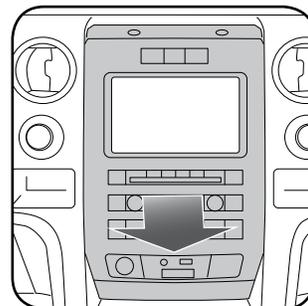

Fig. 1.7
6. Using a panel tool, unclip the radio bezel, then unplug and remove it. (Fig. 1.7)